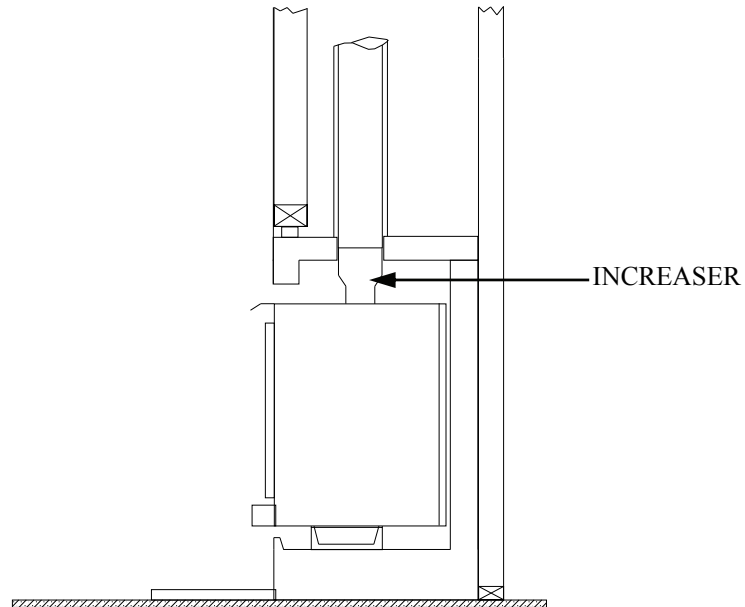

FIGURE 2
1. The preferred method is to use an increaser made of 24 ga. (minimum) stainless steel to go from 6” inside diameter to the exact diameter of the fireplace throat/chimney. (See Figure 2.)